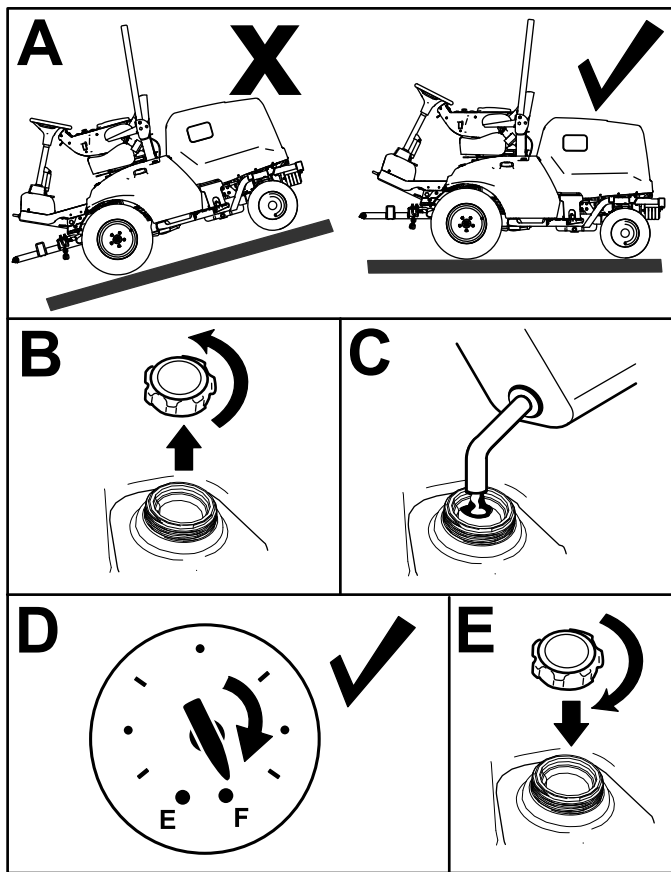

Figure 30
1. Park the machine on a level surface (Figure 30), engage the parking brake, shut off the engine, and remove the key